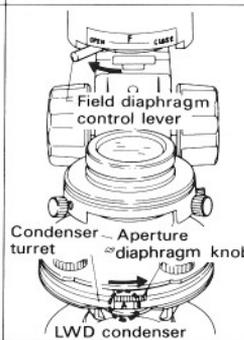

Fig. 23
- 2) Turn the field diaphragm control lever to [ OPEN ] to fully open the diaphragm. (Refer to Fig. 23)
- 1) Setting the condenser turret to [ PhL ], take out the annular diaphragm from the turret. (Fig. 23)
- 3) Fully open the viewfield diaphragm. (Fig. 23)
- 2) Fully open the viewfield diaphragm. Turn the aperture diaphragm knob clockwise to the limit to fully open the aperture. (Fig. 23)